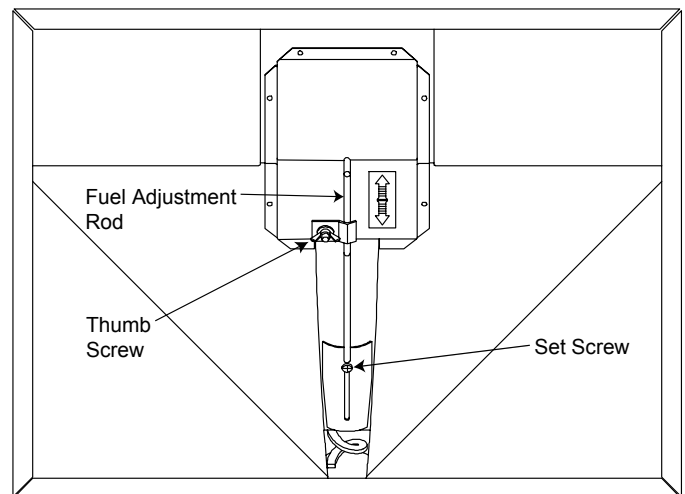

Figure 23.1
The set screw is located at the bottom of the hopper and set loose at the factory so the fuel adjustment control rod will slide up and down by only loosening the thumb screw at the top. See **Figure 23.1**. Do not re-tighten bottom set screw.
1. Loosen the thumb screw. **Figure 23.1**